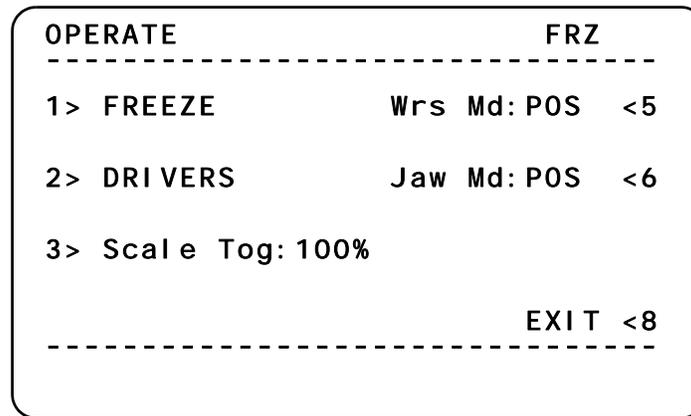

Figure 10 OPERATE menu
1. In the MAIN menu press the 3> OPERATE key to access the OPERATE menu (Figure 10).